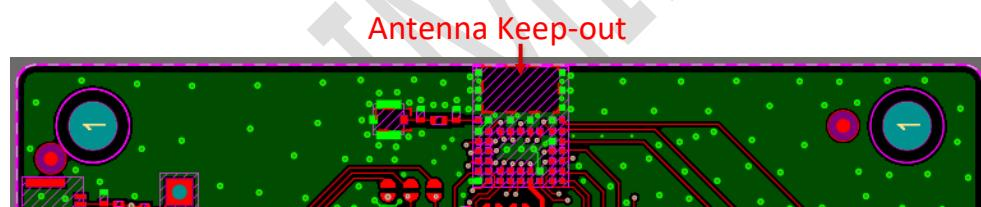

Figure 6: Chip Antenna keep-out area (shown in red) of the BL54L15 $\mu$  development board for the 453-00223 module.
- The BL54L15 $\mu$  development board (453-00223-K1) has the 453-00223 module on the edge of the board (not in the corner). The antenna keep-out area is defined by the BL54L15 $\mu$  development board which was used for module development and antenna performance evaluation is shown in Figure 6, where the antenna keep-out area is 3mm wide, 5mm long; with PCB dielectric (no copper) height ~1.75mm sitting under the 453-00223 chip antenna module.
- Host PCB land pattern and antenna keep-out for the BL54L15 $\mu$  applies when the 453-00223 is placed in the edge of the host PCB preferably in the edge center. Figure 6 shows an example.